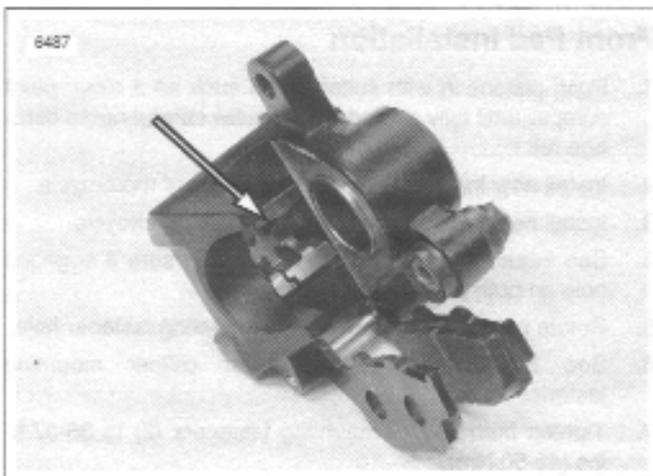

Figure 1-15. Rear Brake Pad Spring
2. See Figure 1-15. Check that pad spring is present. Should pad spring become dislodged, install with long side on piston side of caliper.